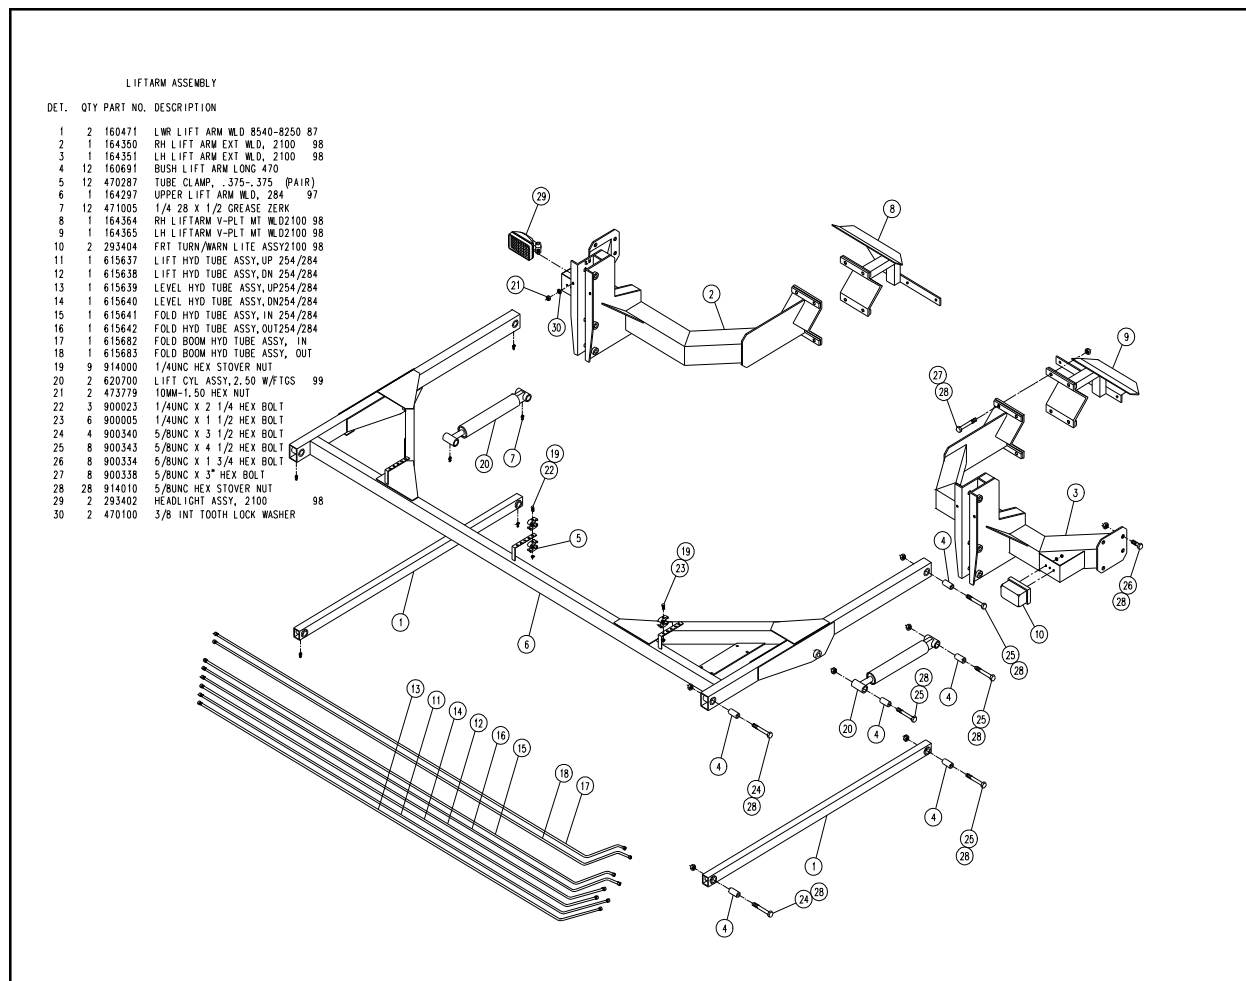

FIG 4.5
1. First, attach right hand (fig. 4.5, items 2 & 8) and left hand (fig. 4.5, items 3 & 9) lift arm mounts and tighten all bolts.
2. Install upper lift arm weldment (fig. 4.5, item 6) to lift arm mounts using proper bushings and bolts provided.
3. Install two lift cylinders (fig. 4.5, item 20), using correct bushings and bolts.
4. After installing the lift cylinders, install two lower lift arm weldments (fig. 4.5, item 1), using correct bushings and bolts.